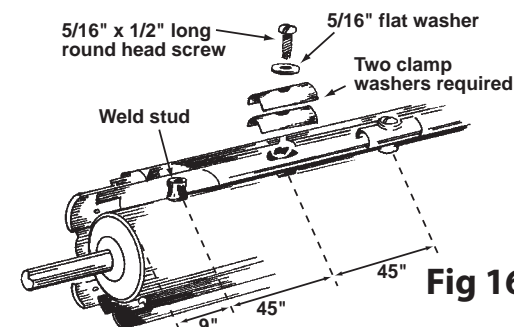

Fig 16
- If the barrel has studs, the top slat will have slots to attach to barrel. Hook curtain over studs and fasten with 5/16" round head screws and washers and TWO clamp washers provided. See Figure 16.